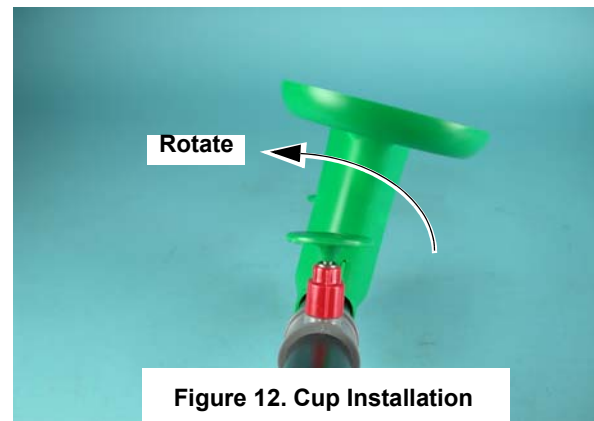

Figure 12. Cup Installation
6. Apply pressure to the unlocked side of the cup, see **figure 12**.